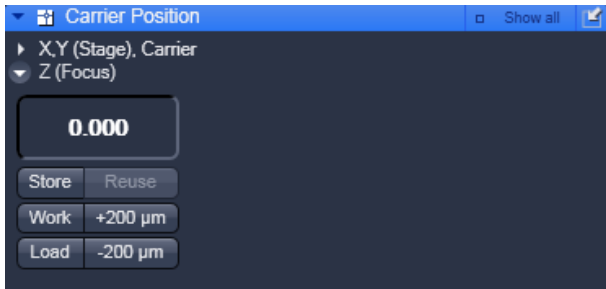

Fig. 9-10 Z (Focus) panel
- Press the **Z (Focus)** tool tab to open the **Z (Focus)** tool box (Fig. 9-10). Press anywhere outside the window to close the tool box.